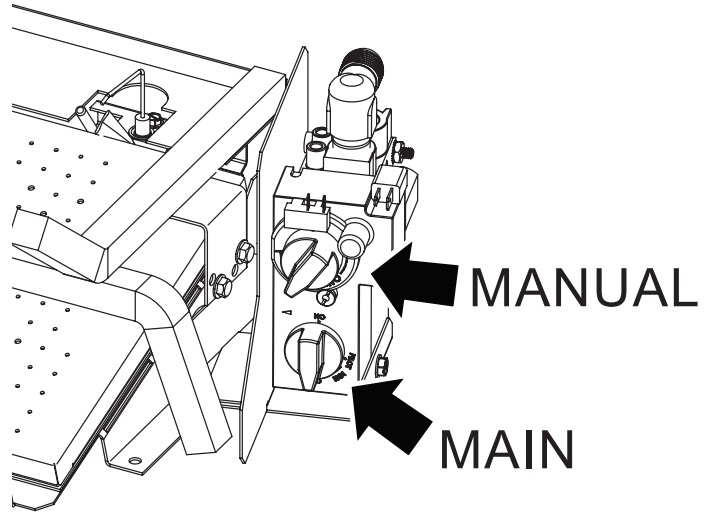

Figure 16
3. Turn the MANUAL knob to the full clockwise  position. **See Figure 16.**
4. Wait five (5) minutes to clear out any gas. Verify that no gas is in the area around the appliance, including near the floor. **If you detect gas STOP! Follow WARNINGS (see pg. 16) under “What to do if you smell gas”.** If no gas is present, proceed to step 5.